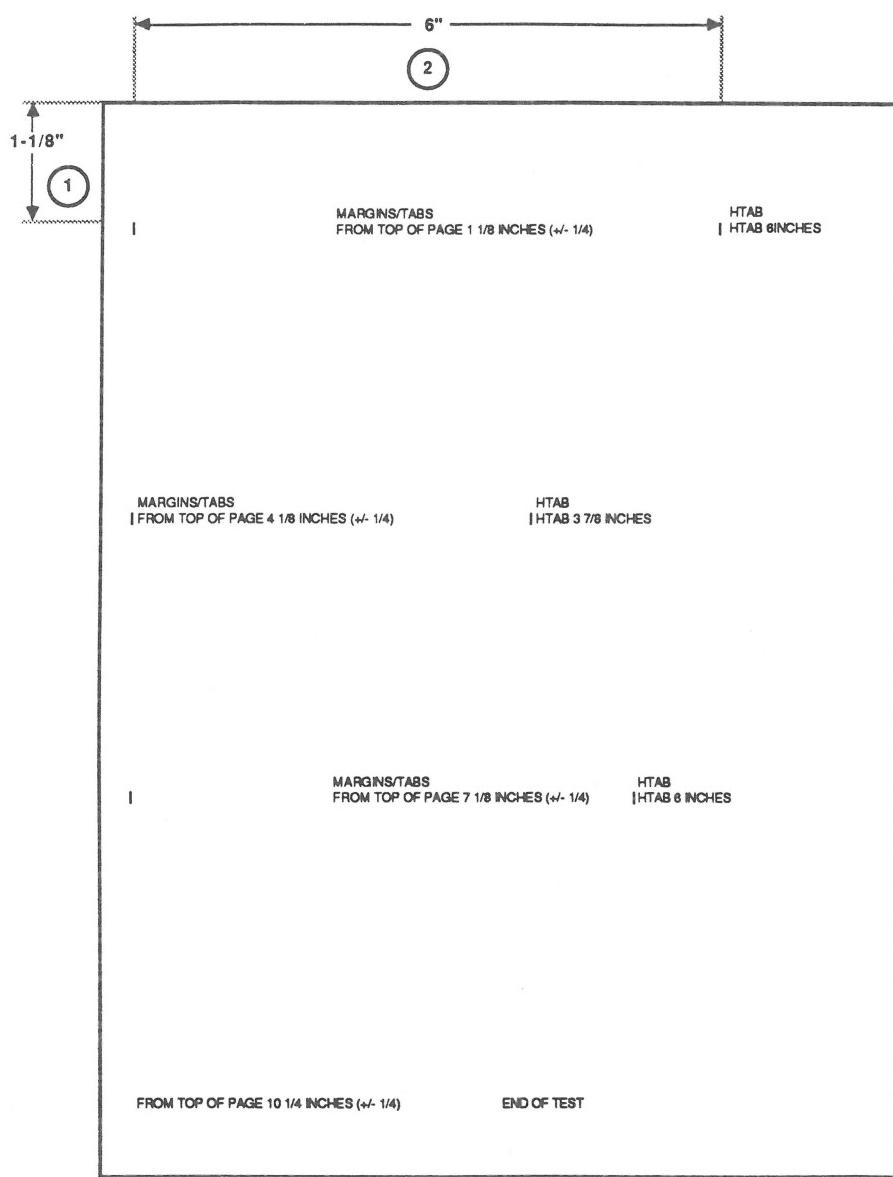

FIGURE 1
- Prints lines and tabs with measurements given for verification, as in the example at left (Figure 1), which shows the test printout from ImageWriter II.
If paper is aligned in the printer correctly, the distance from the top of the page to the interspace between the first two printed lines (Figure 1, #1) and the distance between tab lines (Figure 1, #2) should be as indicated on the printout, give or take the acceptable variance. The measurements given will vary from printer to printer.